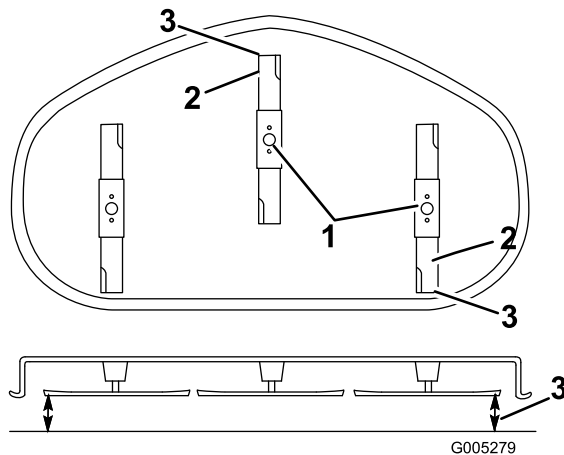

Figure 45
- Set the height-of-cut at position **D** [3 inch (76 mm)] and carefully rotate the blades so they are facing front to rear (Figure 45).
6. Measure from the tip of the front blade to the flat surface and the tip of the rear blade to the flat surface (Figure 45). If the front blade tip is not 1/16-5/16 inch (1.6-7.9 mm) lower than the rear blade tip, adjust the front locknut.
is 1/16-5/16 inch (1.6-7.9 mm) lower than the rear blade tip (Figure 45).